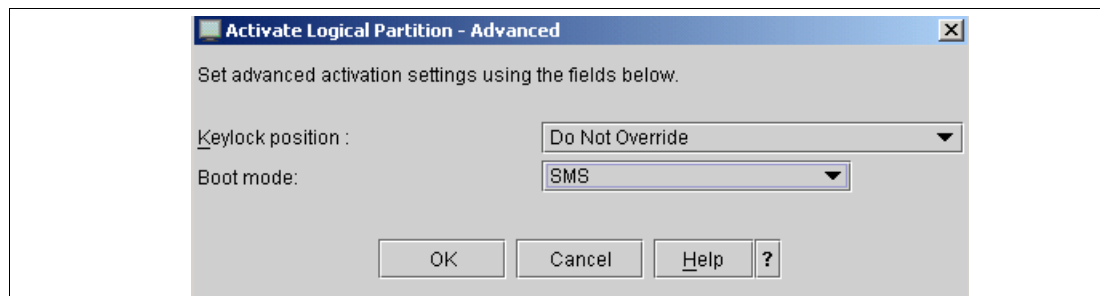

Figure 2-27 Boot options
2. From the Boot Mode pull-down menu, select **SMS**. See Figure 2-27.